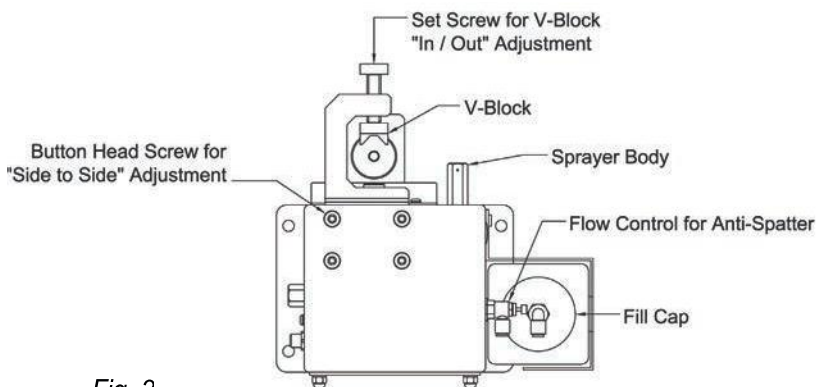

Fig. 3
1. Correct alignment of the welding nozzle is critical to the proper operation of the unit. The clamping V-Block must be adjusted according to the nozzle diameter, so as to center the nozzle above the reamer when the clamp is closed. The V-Block is adjusted by turning the set screw behind the V-Block in or out as shown in Fig. 3.
2. The “side to side” alignment of the clamping unit with respect to the reamer is set at the factory and normally will not require adjustment. However, if realignment is necessary, the entire clamping unit can be moved from “side to side” by loosening the (4) button head screws located on the top of the nozzle cleaning station as shown in Fig. 3.
1. Anti-Spatter solution is added to the unit by removing the fill cap on top of the bottle (see Fig. 3). The bottle capacity is approximately 1 quart.